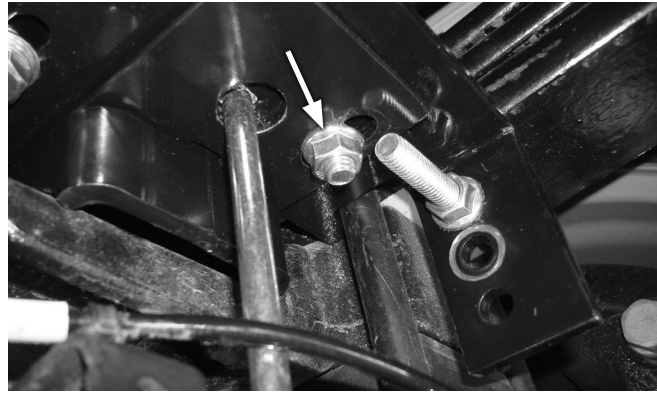

Fig. 36
- Torque the nut (U) to 32 lb.-ft. (43Nm) on both sides (Fig. 36).